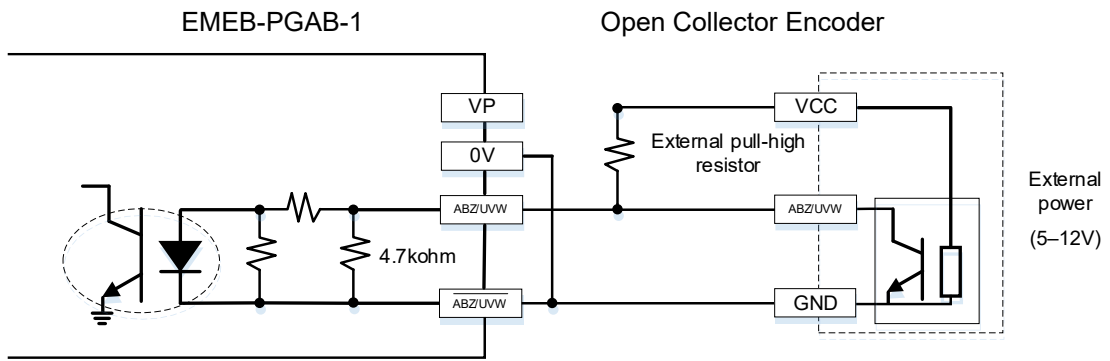

Figure 3-22
- Open collector output encoder application: Use one pull-up resistor for each set of input current 5–15 mA. If open collector input voltage uses 12V power, connect the encoder power externally. See the PG wiring Figure 3-22 below.